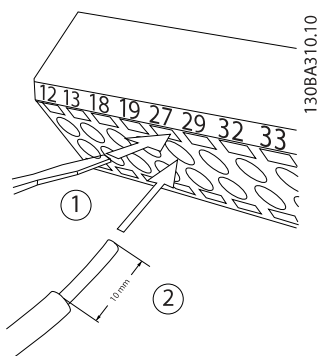

Figure 2.22 Connecting Control Wiring
1. Open the contact by inserting a small screwdriver into the slot above or below the contact, as shown in *Figure 2.22*.